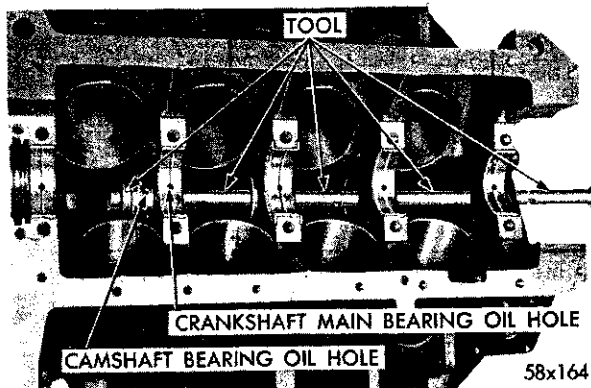

Fig. 30—Removing the Camshaft Bearing Using Tool C-3132A
(1) With the engine completely disassembled, drive out the rear camshaft bearing welch plug.
(2) Install the proper size adapters and horse shoe washers (part of Tool C-3132A) at the back of each bearing to be removed and drive out the bearings (Fig. 30).
(1) Install the new camshaft bearings with Tool C-3132A. Place the new camshaft bearing over the proper adapter.
(2) Position the bearing in the tool. Install the horse shoe lock and by reversing the removal procedure, carefully drive bearing into place, as shown in Figure 30.
(3) Install the remaining bearings in like manner.
The oil holes in the camshaft bearings and the cylinder block must be in exact register to insure proper lubrication (Fig. 30).